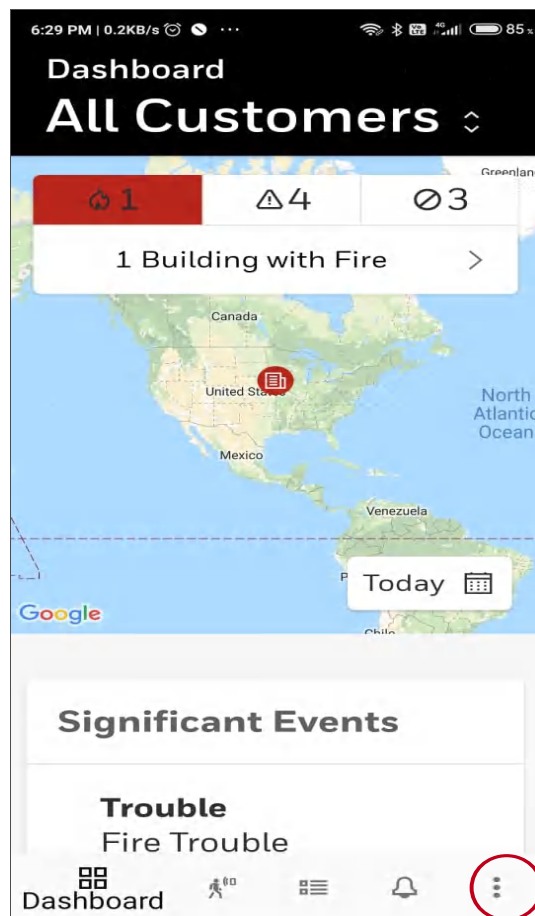

Figure 4.1: CLSS App Dashboard
5. On the app's dashboard, at the right bottom, tap the **More** icon (see Figure 4.1).